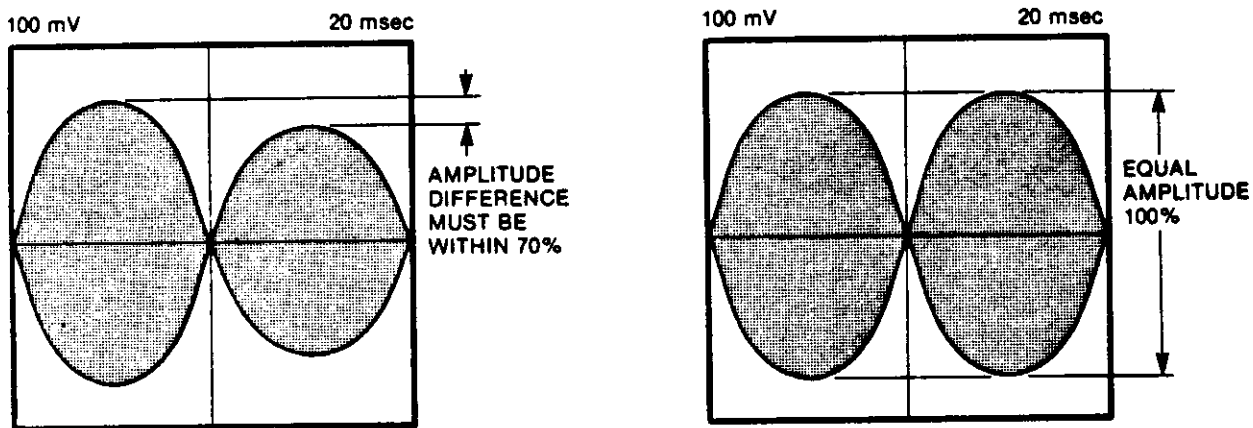

FIGURE 5-6. ALIGNMENT LOBES
- e. Amplitude of two lobes must be within 70% of each other (80% for 465). If lobes do not fall within specification, continue on with procedure (see figure 5-6).